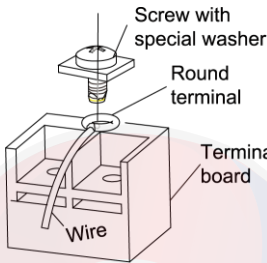

Fig. 4.38
- 4). Position the round terminal wire, and replace and tighten the terminal screw with a screwdriver.(Fig. 4.38)